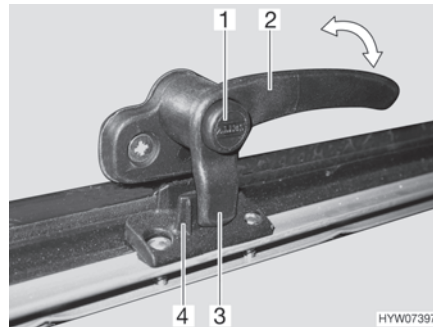
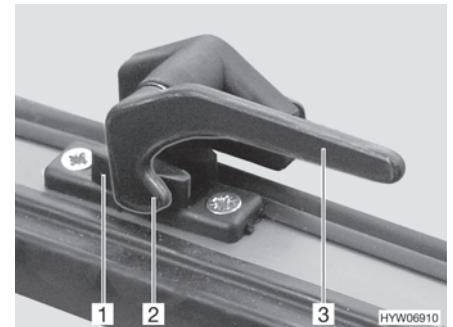

Fig. 67 Catch lever with safety knob in "closed" position
Fig. 68 Catch lever in "closed" position
- Press and hold the security button (Fig. 67,1), if present.
- Turn the catch lever (Fig. 67,2 or Fig. 68,3) a quarter turn towards the centre of the window.
- Turn the catch lever (Fig. 67,2 or Fig. 68,3) a quarter turn towards the window frame. The locking catch (Fig. 67,3 or Fig. 68,2) on the catch lever is entirely on the inner side of the window catch (Fig. 67,4 or Fig. 68,1).
- "Firmly closed" (Fig. 67 and Fig. 68)